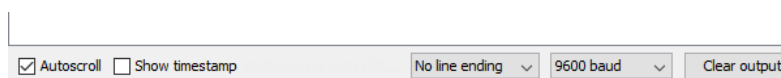

Figure 10.1: Communication Format
18. Set your **communication format** to **No line ending** as shown in Figure 10.1.